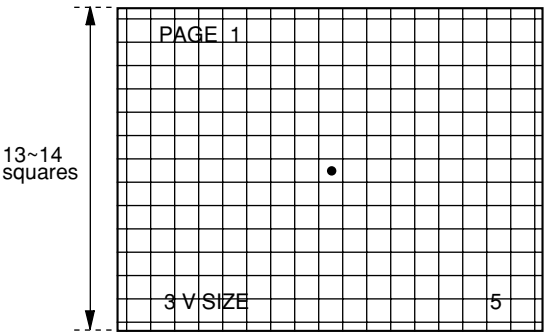

Fig.1-3
- Use the volume keys on the jig remote control to adjust so that the number of crosshatch squares in the vertical direction is 13-14. Fig. 1-3